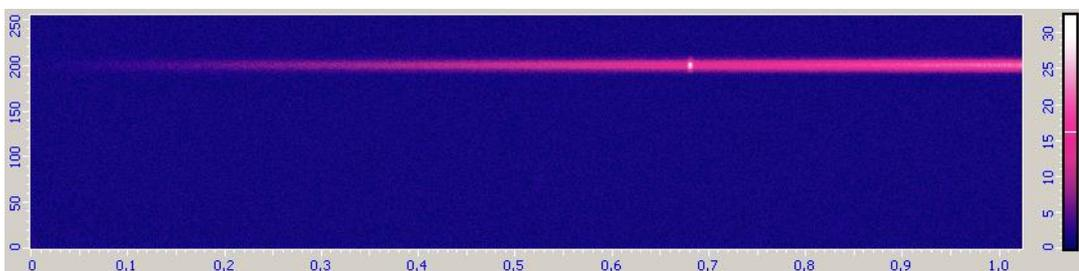

Fig. 10-15. Image collected with the CCD-matrix
2. Acquire the scan by clicking the **Single Scan** button. The collected image displays where the signal is concentrated (Fig. 10-15).